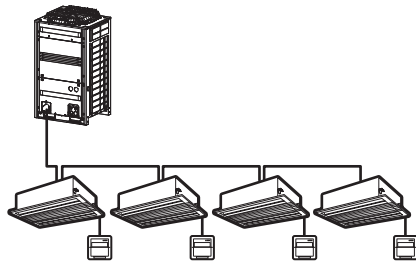

figure 14
- When one outdoor unit is connected with several indoor units as shown in figure 14, it is necessary to designate one of the remote controls as the master remote control.